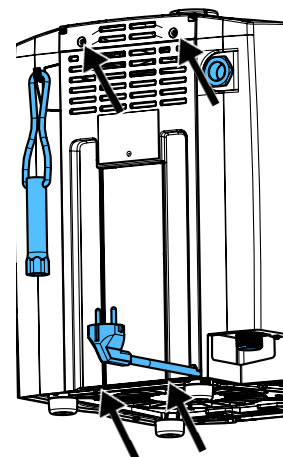

Fig. 18
- ⇒ Remove 4 screws on the back (Fig. 18), pull the back downwards and remove it.